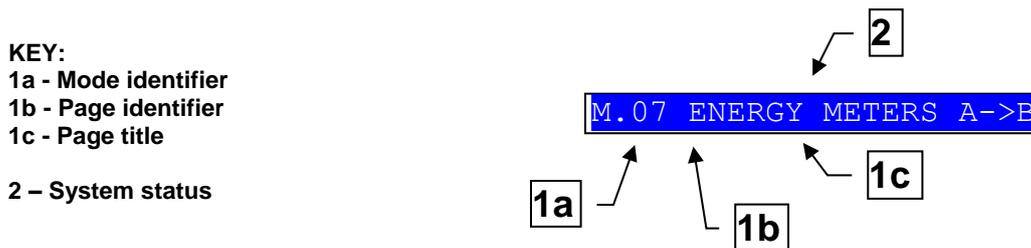

Fig. 4 - Top status bar
6.4.6 Top status bar (ref. to fig. 4)